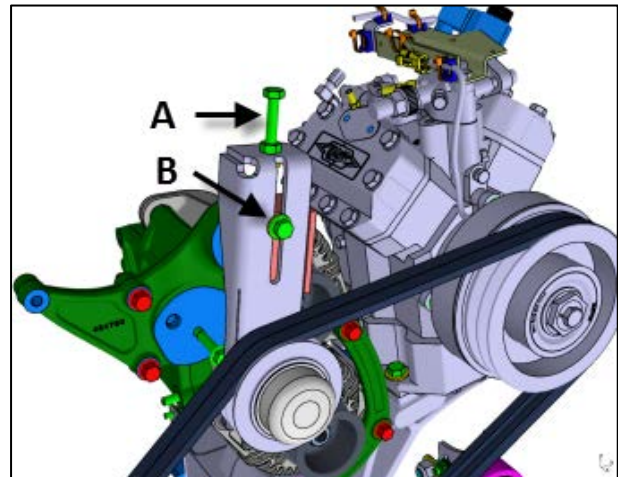

Figure 5
12. For the A/C belt, adjust tension by turning Adjustment Screw **A** (Figure 5). Use the jam nut at the base of Screw **A** to keep proper tension adjustment.